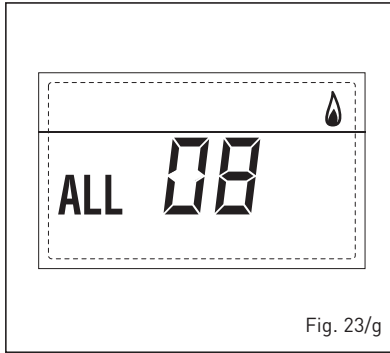

Fig. 23/g
**- WATER CIRCULATION ANOMALY ALARM 09 (fig. 23/h)**